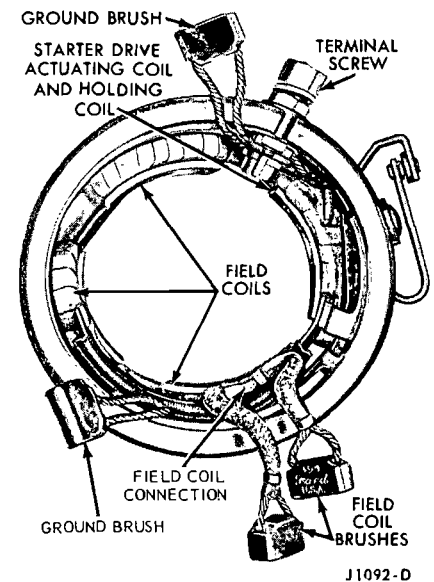

FIG. 5—Field Coil Assembly
1. Install the starter terminal, insulator, washers, and retaining nut in the frame (Fig. 5). Be sure to position the slot in the screw perpendicular to the frame end surface.